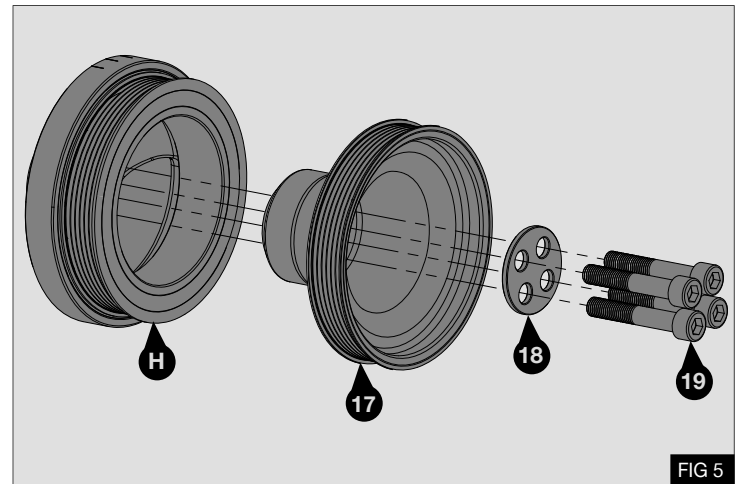

FIG 5
6. Remove and discard the drilling jig (20) and the drill bit (21). De-bur the faces of the original crank pulley (H) where the faces have been drilled through.
7. Secure the original crank pulley (H), additional crank pulley (17) and the crank pulley washer (18) using bolts (19) - Fig 5